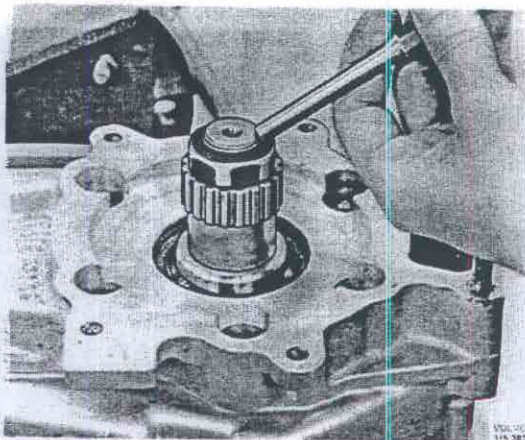

Fig. 43-120. Nut locking
24. Fit on the gear and the nut. Tighten the nut to a torque of 140–160 Nm (14–16 kpm = 101–115 lbftf). Lock the nut by peening the edge of the nut, Fig. 43-120.